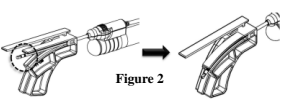

Figure 2
- (Figure 2)** If this tool does not extend past the end of the tab, the handpiece may not function properly after being bent.
**NOTE:** The cannula tip for the 15ga, 10cm and 13ga, 10cm handpieces will not extend past the bending tab as illustrated in **Figure 2**. For these handpieces, simply fully insert them (until they cannot be inserted any further) into the bending tool prior to bending.